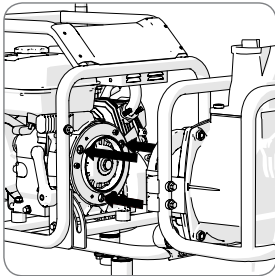
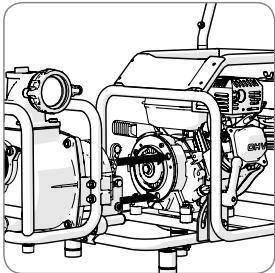
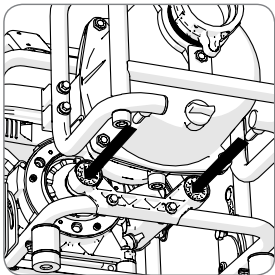

Fig 1a
Fig 1b
Fig 1c
- Hold the accessory by its external frame and offer it up to the engine. Visually align the 3 locating pins (**Fig.1a & Fig.1b**) and 2 rear stabilising pins (**Fig.1c**). Enlist competent help if necessary.